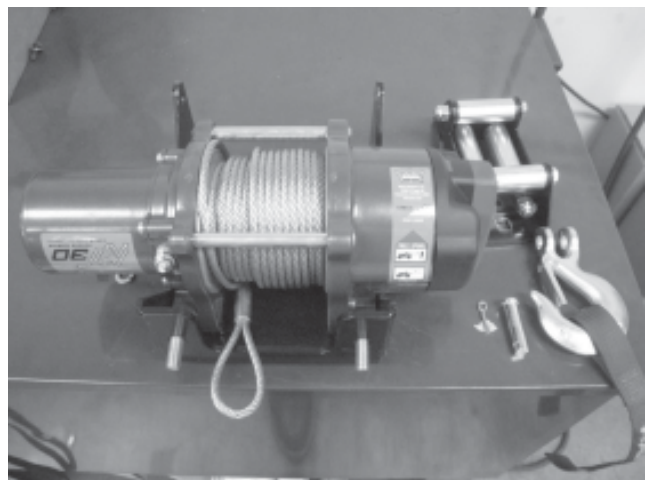
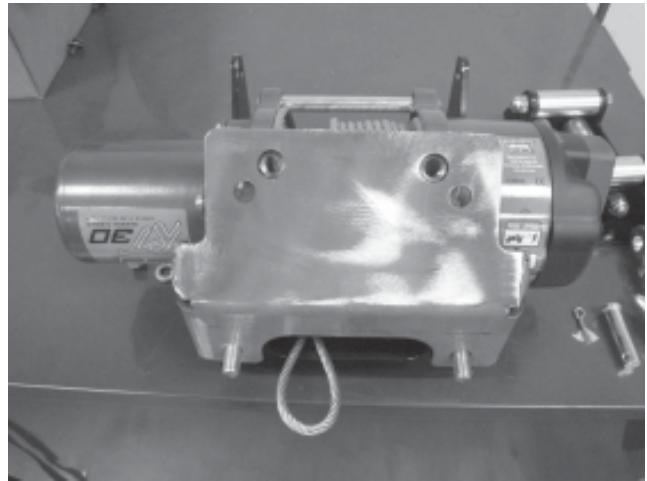

Figure 7
Figure 8
4. Place two M10x1.5x25mm bolts through the back of the face of the WARN winch mount (Figure 7). Then place the WARN winch mount adapter bracket on the face of the winch mount feeding the bolts through the mounting holes on the bracket. (Figure 8)